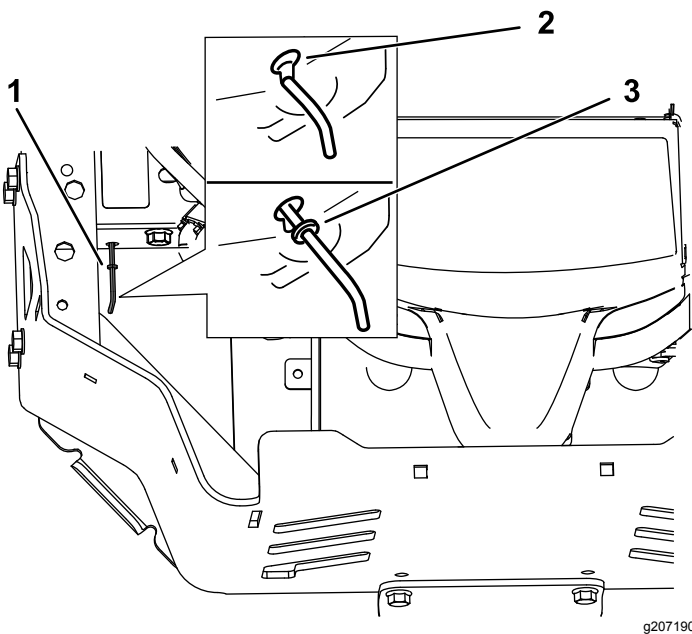

Figure 28
4. Move the bypass levers forward through the key hole and down to lock them in place (Figure 28).
Move the bypass levers rearward through the keyhole and down to lock them in place as shown in Figure 28.